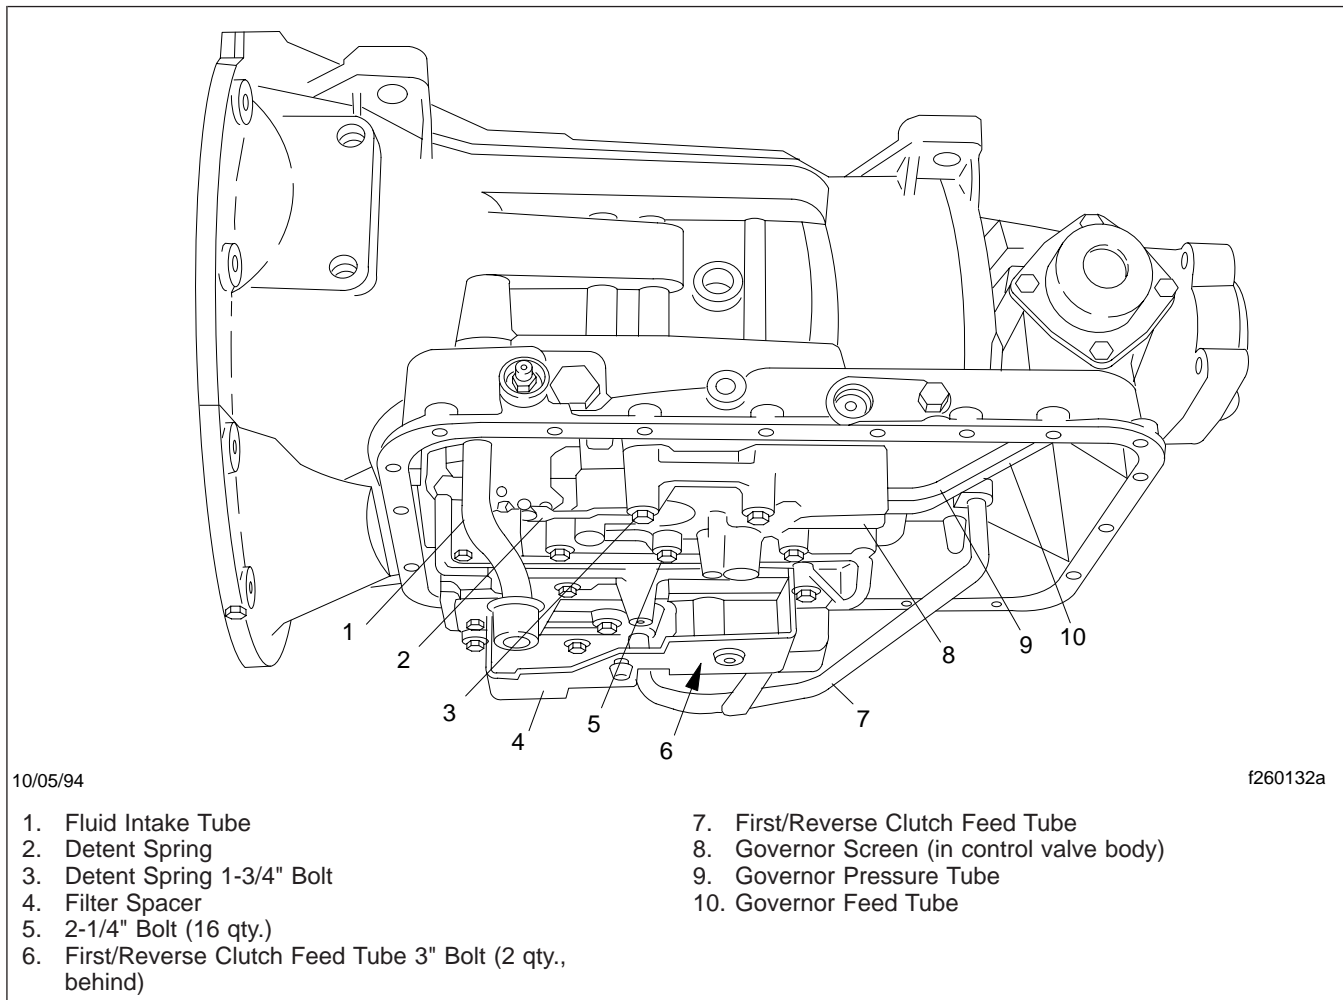

Fig. 4, Allison AT Series Transmission Governor
7. Remove, clean, and install the governor feed line screen, located in the control valve body. See **Fig. 4**.